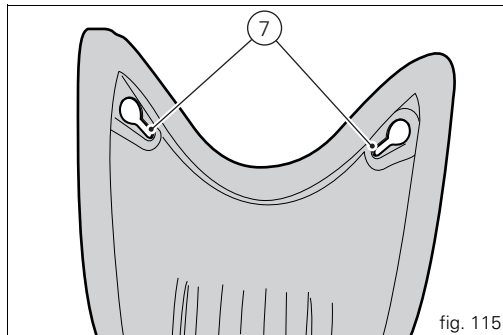

fig. 115
Position the front part of the rider seat (4), with slots (7, fig. 115), in the pins (6, fig. 114) of the tank.